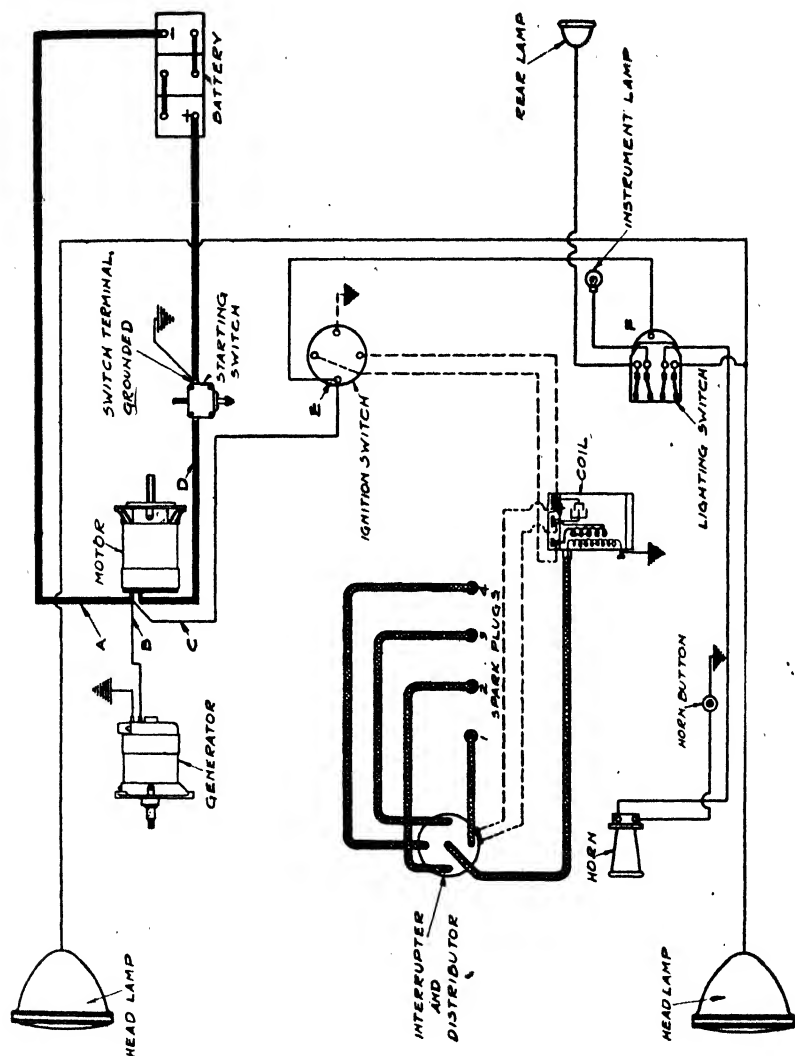

Fig. 230. Wiring Diagram for the Bijur System on the Hupmobile
*Hupp.* Fig. 230 shows the 6-volt single-wire system. This diagram is simplified by the omission of the magneto, current from the battery being supplied to a single coil and distributor system for this purpose. The generator is bolted to an extension on the right side forward of the engine and is driven by silent chain from the crankshaft. The generator is of the third-brush regulation type. The field windings are protected by a 12-ampere fuse. There is a four-way switch for lighting circuits.
*Hupp.* General instructions covering failure of generator, starter, or lamp circuits apply as already given. Many other important factors might be mentioned such as open circuit, loose connections, blown generator fuse, corroded battery terminal, and brushes not seated properly. If the starting motor is damaged so that its removal is necessary, it should be removed by disconnecting one of the battery terminals and the two small wires *B* and *C* as shown on the diagram, Fig. 230. Next remove heavy cables *A* and *D* from the starting motor. The holding nuts on the motor can then be loosened to permit its removal. In replacing a starting motor, the pinion riding on the square shaft of the motor should be tested to see that it has a free sliding fit on the shaft. Do not use a file but see that all surfaces are perfectly clean and well oiled. The pinion must be guided over the shaft before the motor is pushed into place. Connect the new motor in accordance with the wiring diagram. Do not make storage-battery connections until all other connections have been made and while repairs are being carried out battery terminals should be protected.